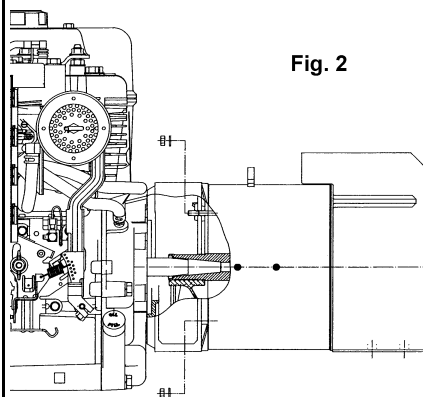

Fig. 2
-) lock the alternator into the cover by fixing the four M8 nuts onto the bolts, applying a tightening torque of  $16 \pm 7\%$  Nm (figure 2)